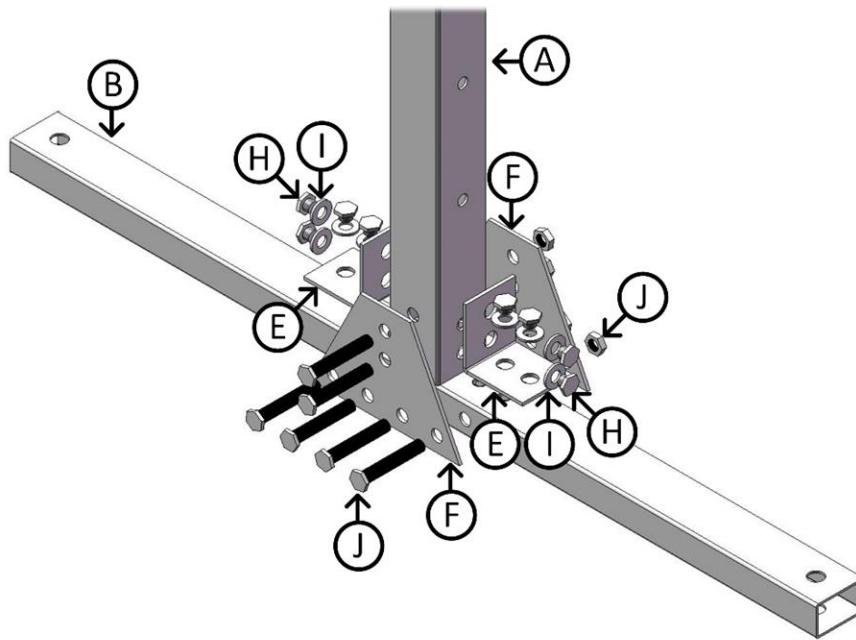

Figure 1: Foot Assembly
- Attach Part E to the front and back of Part A using Allen Bolts and Washers as shown in Figure 1. The front and back of Part A can be identified by the 4 manifold system mounting holes.